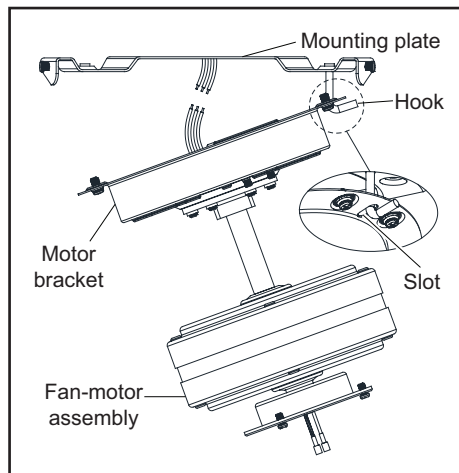

Figure 6
1. Carefully lift the fan-motor assembly and engage the slot in the motor bracket on the top of the fan-motor assembly with the hook on the mounting plate so that it is securely suspended. (Figure 6)